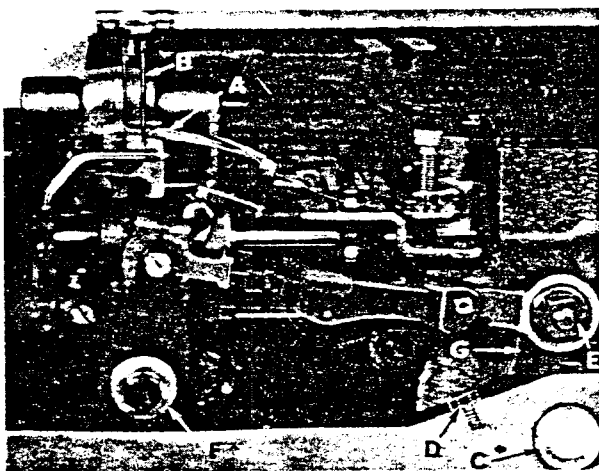

Fig. 5
Insert the looper in the looper rocker and turn handwheel in operating direction until the point of the looper (A, Fig. 5), moving to the left is even with the left side of right needle (B). Note the height of the eye of the needle with respect to the looper point, then turn handwheel in the reverse direction until the looper point again moves to the left, and is even with the left side of the right needle. If the motions synchronize, the height of the eye of the needle with respect to the looper point will be the same. A variation of .005 inch is allowable. If the distance from the eye of the needle to the point of the looper is greatest when the pulley is turned in the operating direction, move the looper drive shaft synchronizing stud (C) to the rear. Moving it in the opposite direction acts the reverse.
Moving of the looper drive lever shaft synchronizing stud is accomplished as follows: Loosen the clamp screw (D, Fig. 5) of the looper drive lever. To move stud to rear (away from operator), a light tap with a small hammer, directly on the stud, is all that is required. To move stud forward (toward operator), remove the cloth plate, throat plate support, oil reservoir top cover and oil reservoir back cover, then, a light tap on the looper drive lever rocker shaft, toward the operator, is all that is required. Then, using the looper drive lever to take up the end play between the looper drive lever rocker shaft and its synchronizing stud, tighten the looper drive lever on the shaft, using screw (D, Fig. 5).
With the looper at the extreme right end of its travel, check the location of the center line of the right looper connecting rod bearing, using gauge No. 21227 CX. Remove nut (E, Fig. 5) and place hole in gauge over threaded stud. The left end of the gauge should locate against the right side of the looper rocker cone (F). If adjustment is necessary, loosen the clamp screw (D) and reposition the looper drive lever (G) as required. Tighten clamp screw. If gauge is not available setting can be checked with a scale. The distance between the center line of the looper rocker cone and the center line of the looper lever stud should be  $4 \frac{1}{16}$  inch (Fig. 6).